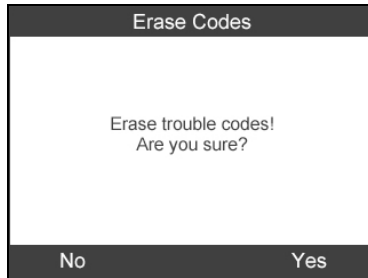

Figure 6.6
- 2) A confirm screen will show up. Press the corresponding **FUNCTION** button “**Yes**” to continue; otherwise press the corresponding **FUNCTION** button “**NO**” to exit. (Figure 6.6)